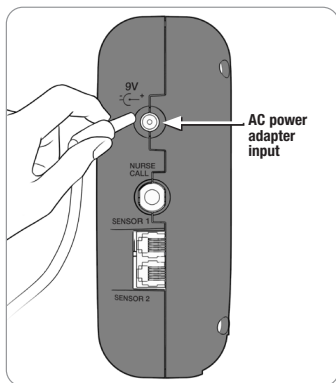

Fig. 11
1. Connect the AC power adapter to the On Cue PRO (Fig. 11).